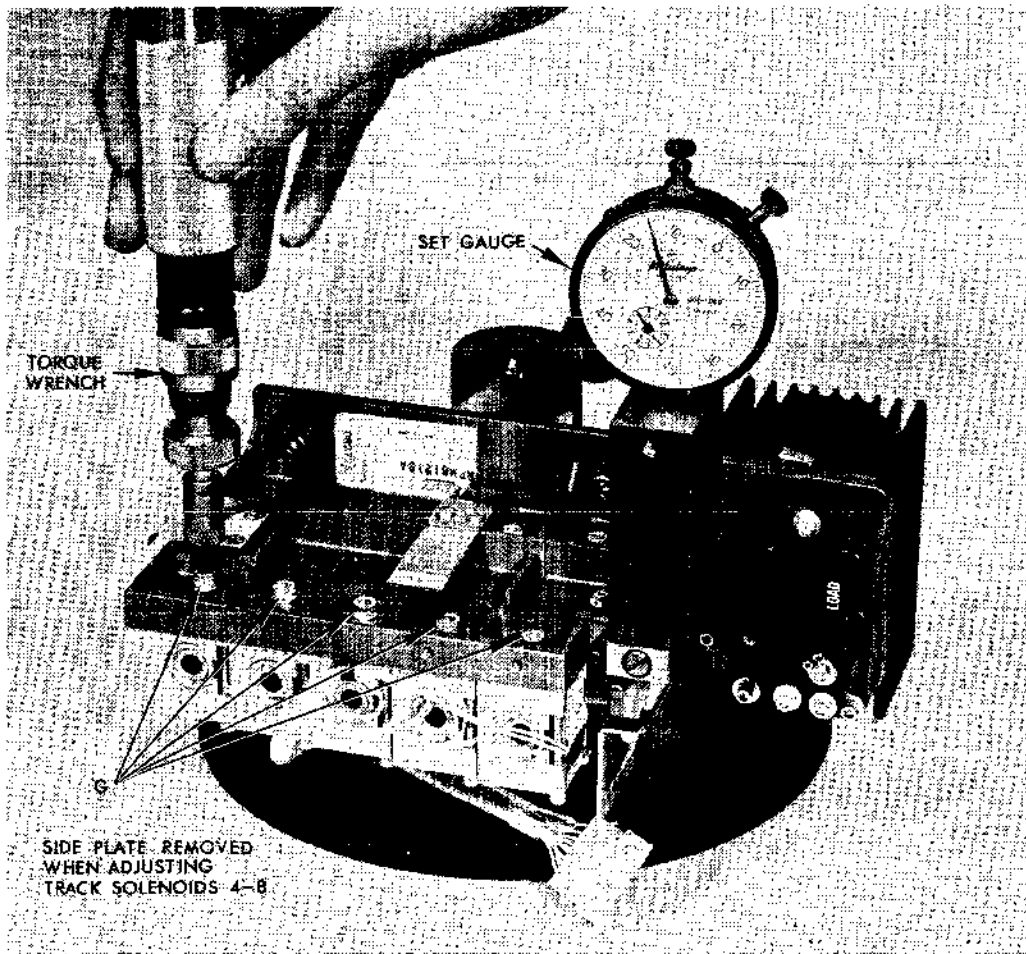

Figure 5-6. Setting Punch Pin Depth.
- d. Pull up on the indicator knob and slide the set gauge on the Punch and Pin Block die as shown in Figure 5-6. Gently lower the indicator knob into track 1 until the adaptor contacts the punch pin. Note the dial reading which should be 0.015 ± 0.001 .
- e. If the condition in step d is not present, loosen screw (G) which holds the track 1 solenoid to the perforator housing and adjust the solenoid until the conditions in step c are met. The solenoid is adjusted by walking it back and forth along its ridge. Tighten screw (G) to 20-inch pounds. Use a torque wrench to establish this torque. The solenoid screw labeled (G) in Figure 5-6 is the same screw labeled (G) in Figure 7-1.